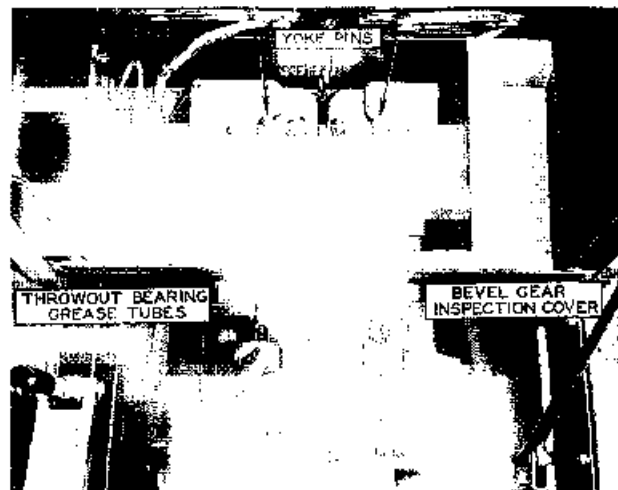

FIG. 2
8. Remove yoke pins from rear end of steering clutch rods. Fig. 2.